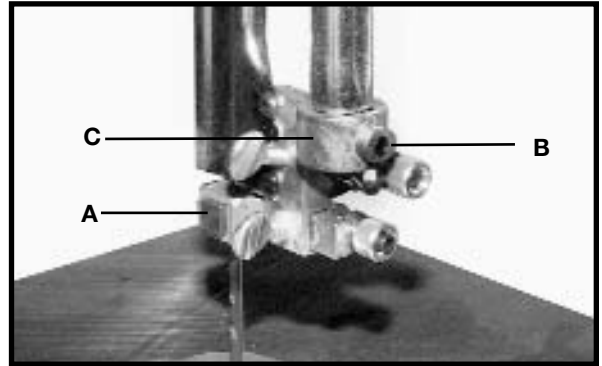

Fig. 27
3. Check the upper blade guide assembly. The blade guides (A) Fig. 27 should be parallel to the blade. To adjust, loosen the screw (B) and rotate the complete guide assembly (C). When the blade guides are parallel with the blade, tighten the screw (B).